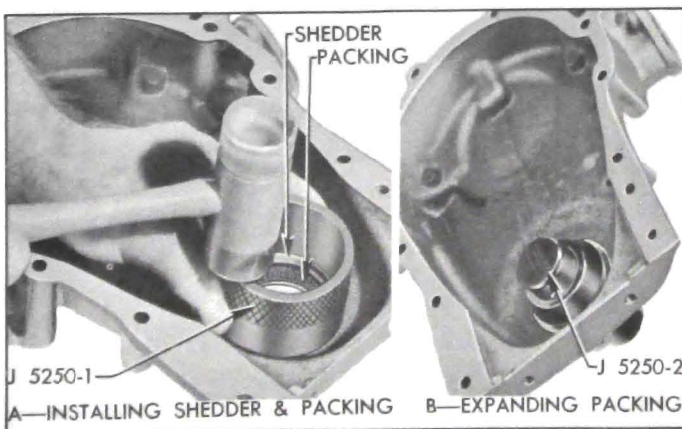

Figure 2-26—Installing Crankshaft Oil Seal
2. Work new packing into the shedder, then drive shedder into recess in timing chain cover, using Installer J 5250-1. See figure 2-26, view A.
3. Push Packing Expander J 5250-2 through the seal to expand the packing into place and size the opening for the crankshaft. See figure 2-26, view B. Apply a light coat of vaseline to the packing.